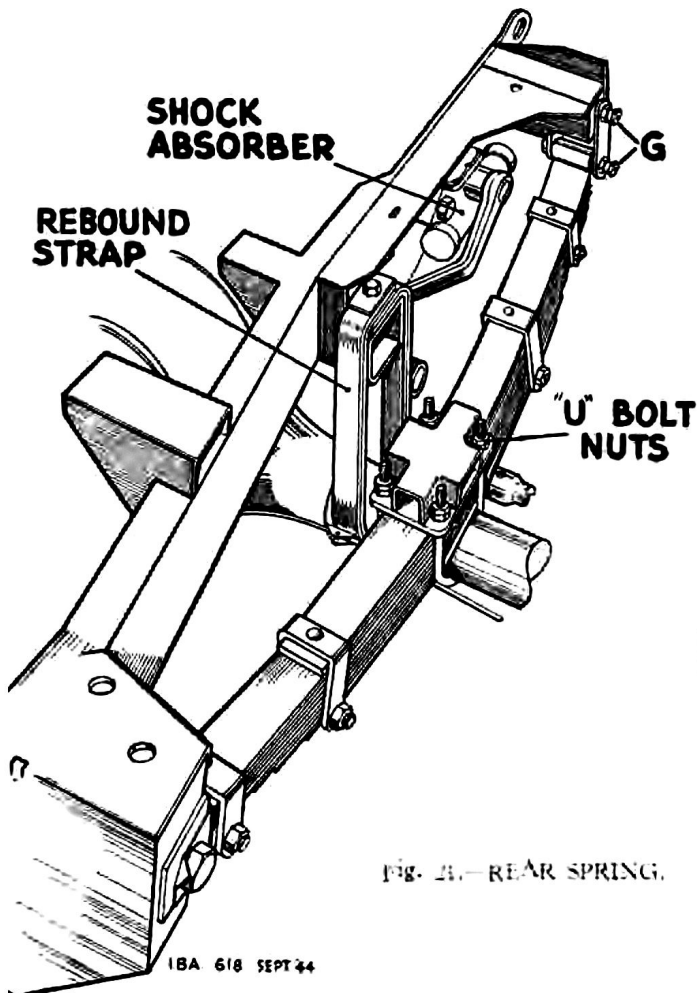

FIG. 21.—REAR SPRING.
Regularly lubricate the two shackle bolts of each spring, points (G) Fig. 21.
4. Rebound strap securing bolts. (Fig. 21.)